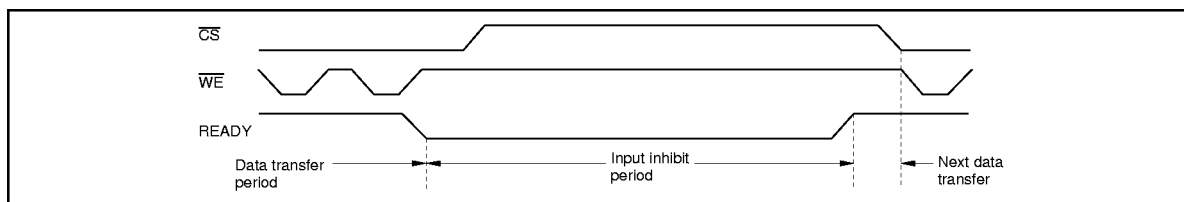

Figure 16 READY Output Timing (When It Is Always Available)
- READY is always available (Figure 16).